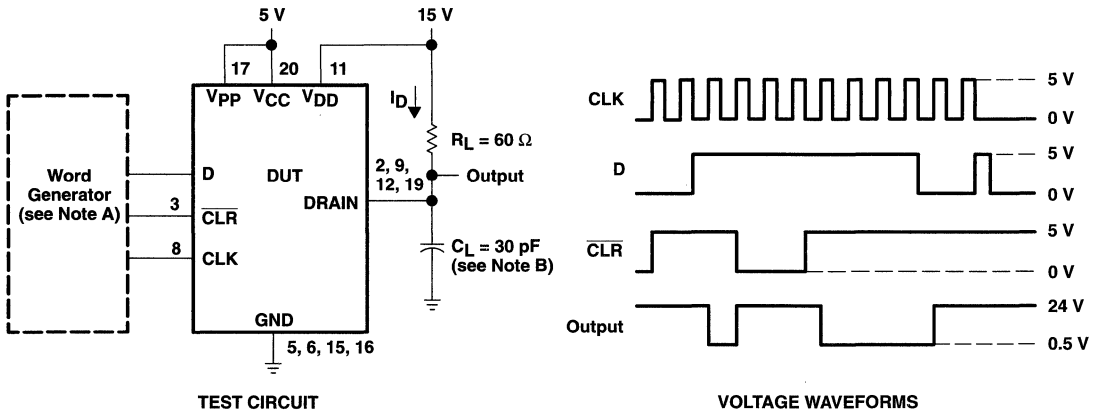

**Figure 2. Programming Waveforms**
2. For programming waveform, see Figure 2.